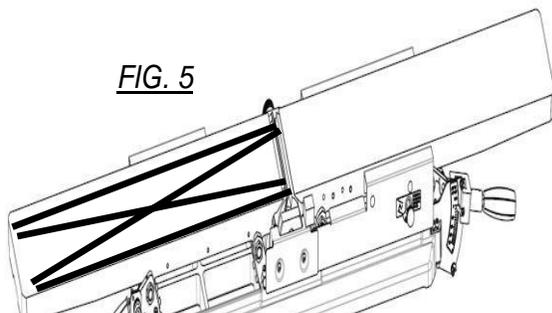

FIG. 5
STEP 5: Place a straight edge in positions shown in **FIG. 5** to make sure outfeed table is parallel with the cutterhead.